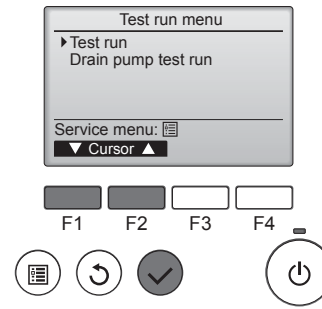

Fig. 7-5
- ④ Select "Test run" with the [F1] or [F2] button, and press the button. (Fig. 7-5)